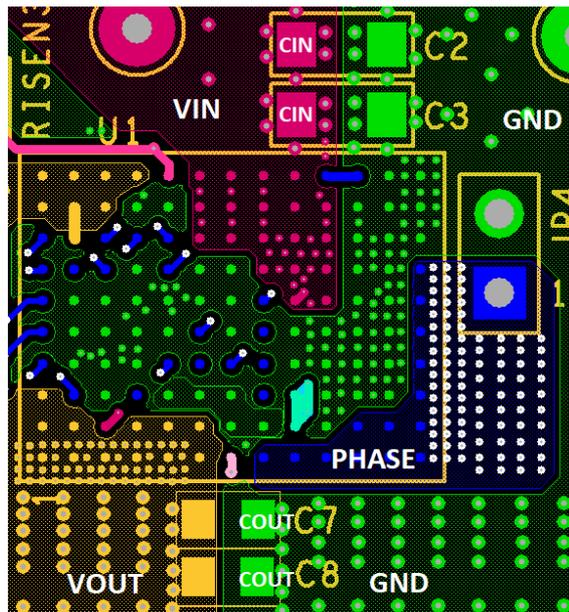

Figure 40. Layout Example - Top Layer, Showing Location of VIN and VOUT Capacitors
- Place the input capacitors and high frequency decoupling ceramic capacitors between VIN and PGND as close to the module as possible. The loop formed by the input capacitors, VIN, and PGND must be as small as possible to minimize high frequency noise. Place the output ceramic capacitors close to VOUT. Use a copper plane to connect the output ceramic capacitors to the load to minimize any parasitic inductances and resistances. An example layout is illustrated in Figure 40.